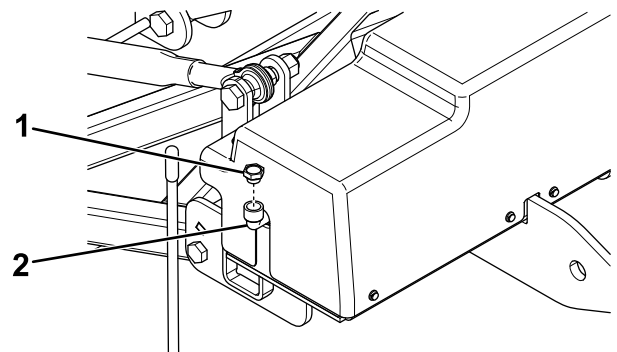

Figure 27
2. Clean the area around the fill cap (Figure 27).
3. Remove the fill cap from the hydraulic reservoir (Figure 27).